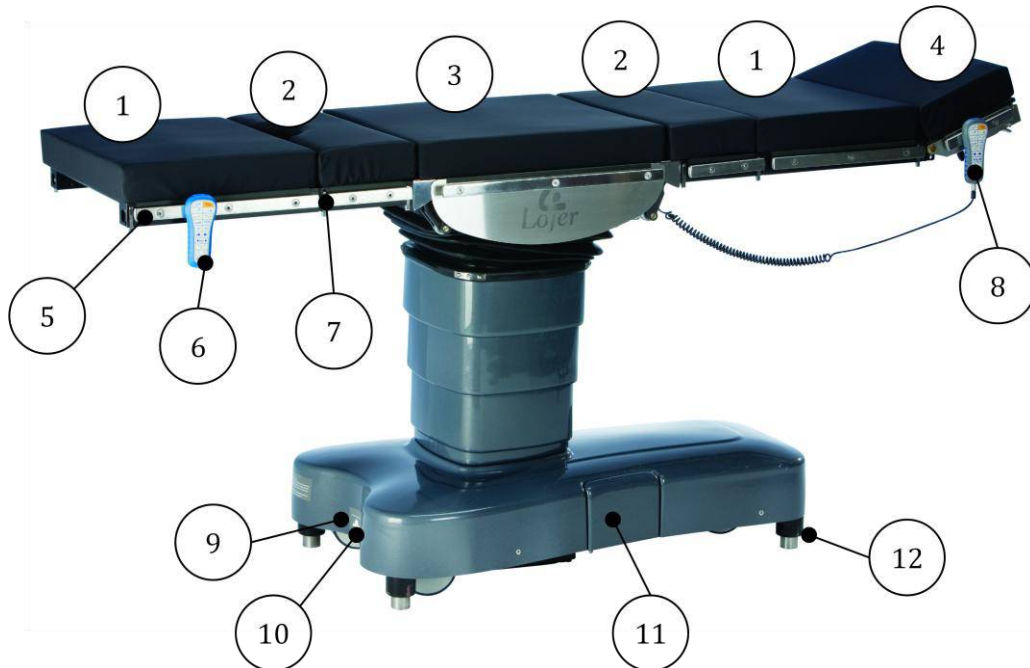
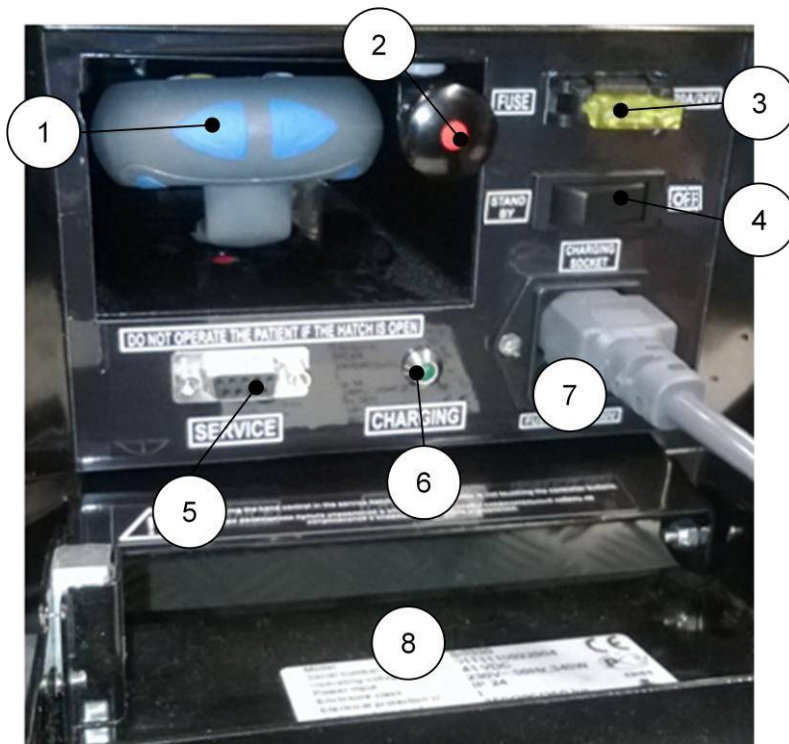

Figure 2: Lojer Scandia SC330 operating table in standard configuration
Figure 3: Main connection panel
The parts of the Lojer Scandia SC330 operating tables are shown below (Figure 2).
Main connection panel is shown below (Figure 3).
As a standard the auxiliary hand control is grey. The wireless Bluetooth control (blue) is available as an option. The auxiliary hand control is located in hatch on the main control panel (see Figure 3). It is connected to the table with a cable.
The functions of the table can be operated also with a foot control which is available as an accessory (Figure 6). The functions of the foot control are programmed according to the customer's order with the Lojer Service Software. 1-3 functions can be programmed. The symbols are identical with the hand control symbols. The foot control is connected to the table on the short section of the lower frame (see Figure 2 (10)). Remove the cover of the connector and attach the cable by pressing it. Ensure the fastening by tightening the thumb screws.
- Attach the potential equalization cable to the connector (Figure 2 (9)).
- Open the main connection panel and attach the 20 A fuse to its place (Figure 3 (3)).
- Turn the power on from the main switch (ON) (Figure 3 (4)).
- Attach the charging cable to its connector in the main control panel (Figure 3 (7)) and charge the batteries.
- Attach the hand control cable on the grey hand control (Figure 2 (8)) and on the column under the middle section (Figure 4) (make sure that the connector is properly in place). Tighten the connector on both ends. Attach the auxiliary hand control similarly to the cable on the main control panel (Figure 3 (1)).